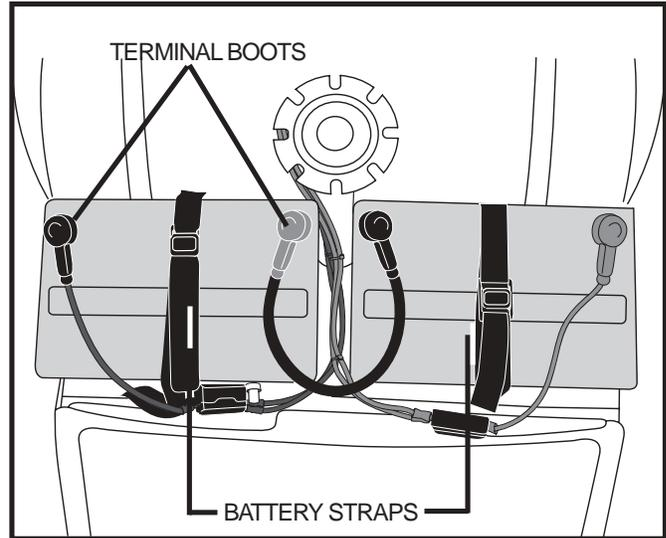

Figure 12. Battery Straps
3. Disconnect the battery tie-down strap. See figure 12.
**NOTE: Ensure both battery terminals are covered with the terminal boots. See figure 12.**